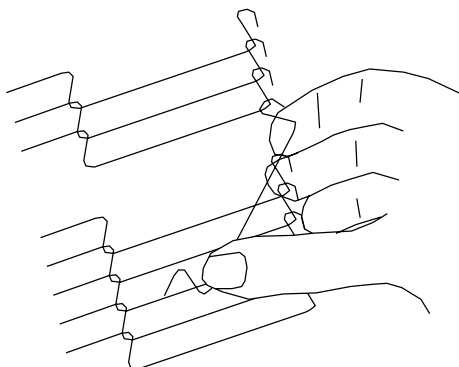

Figure 4-29.
3. Remove the outside master links on the right and left sides of the conveyor belt as shown in Figure 4-29.